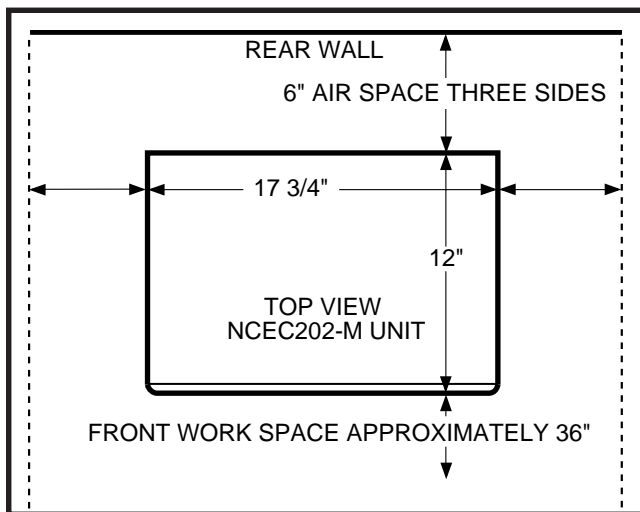

FIGURE 3-1—PERCEPTIONe
3.00 The minimum floor and maintenance space required for installation of each of the two equipment cabinets is shown in Figures 3-1 and 3-2.